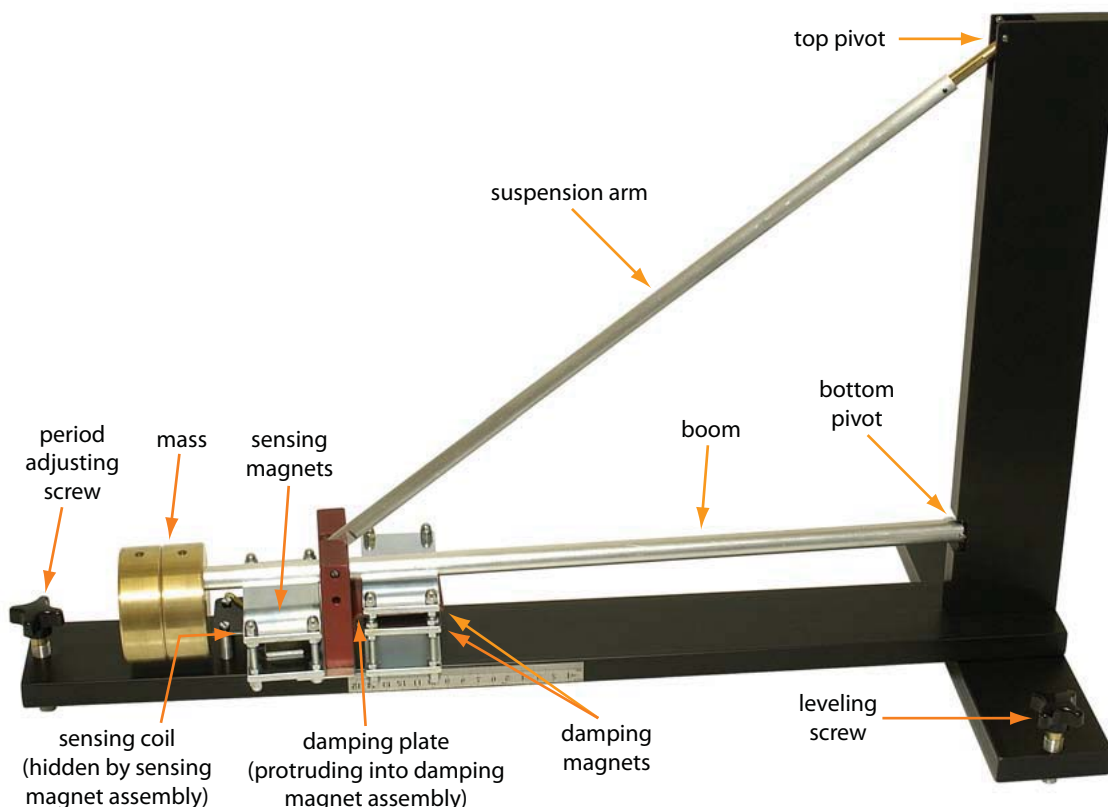

Figure 1: Swinging gate pendulum seismometer.
To set up the seismometer for making measurements, follow the following procedures. See Fig. 1 on the next page for a picture of the apparatus.
**Level the seismometer** using the leveling screw, shown in Fig. 1, so that the brass mass at the end of the seismometer pendulum is aligned with the long arm of the T-shaped support. This is most easily performed if the damping magnets are placed such that they surround the red aluminum damping plate, as shown in Fig. 1, which provides maximum damping of the pendulum.
**Adjust the period** of the seismometer so that the period is 15–20 seconds. The period of this *swinging gate* pendulum is determined by the tilt of the boom below horizontal, meaning that the mass should be a few millimeters lower than the bottom pivot. You can change the tilt by turning the period adjusting screw, which is shown in Fig. 1.